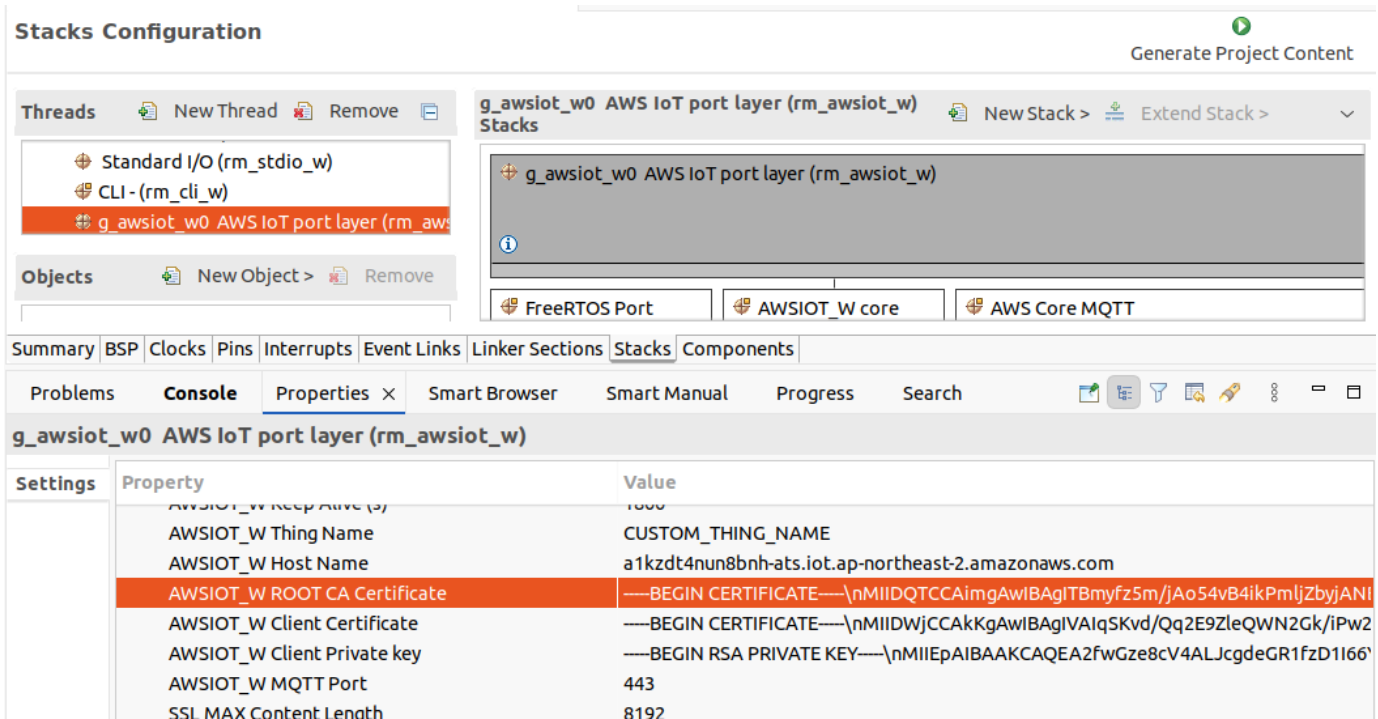

Figure 4. CA Cert, Client Certificate and Private key change in e2studio
2. Click **Generate Project Content** in Stacks. This action updates the corresponding macros in the `rm_awsiot_w_cfg.h` file, see Figure 4.